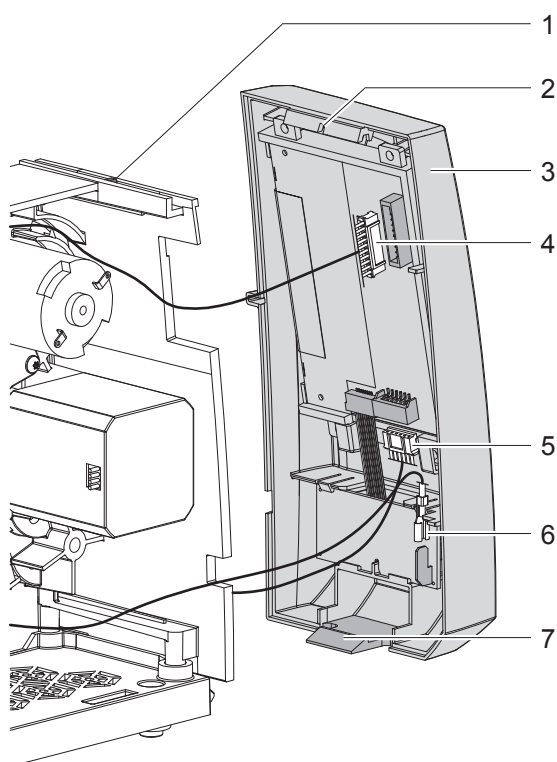

Fig. 5 Removing / mounting the control panel
- Unplug connector (5 / fig. 5) from the control panel.
- ▶ Remove the transport module (7) with the printing roller (6) by tilting from the chassis (5).
- ▶ Pull the cutter connection cable (8) downward out of the transport module (7).